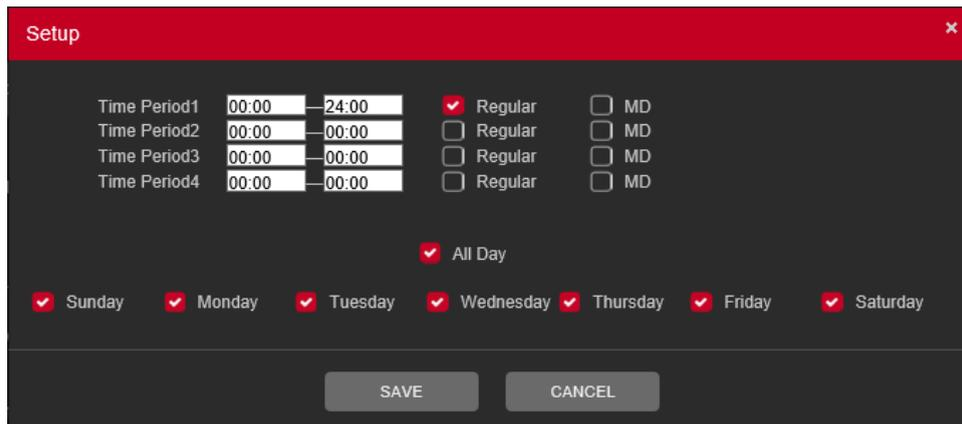

Figure 5.57
- **[Setup]** Here user can define record period, Recording type and Week days for Schedule recording. Interface as shown in Figure 5.57.